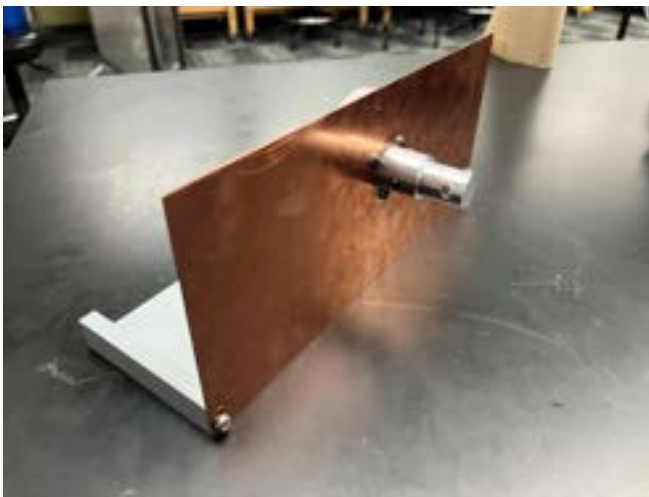

Figure 7: Motor to Driveshaft Adapter connected
- Slide the Motor to Driveshaft Adapter over the motor stud. Using a M4 screw, screw down onto one of the two flat sides of the motor stud to secure the adapter to the motor, as illustrated in figure 7.